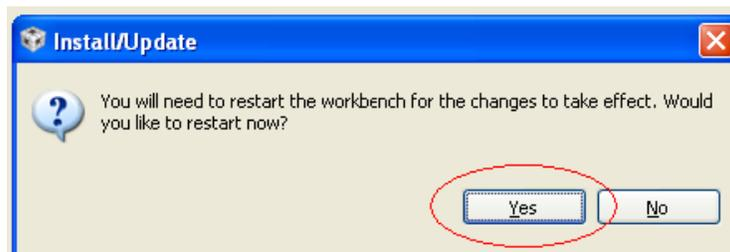

Figure 8. Install and Update Dialog Box
- The following pop-up appears (see Figure 8) after the update is successfully installed.